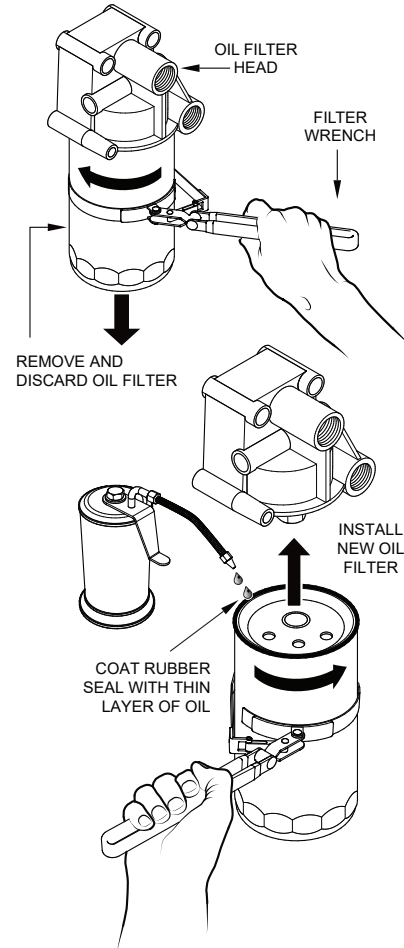

Figure 72. Oil Filter Removal
2. Using an oil filter wrench (Figure 72), remove the engine oil filter.
3. Coat the rubber seal (gasket) surface of the oil filter (Figure 72) with clean 15W-40 engine oil.